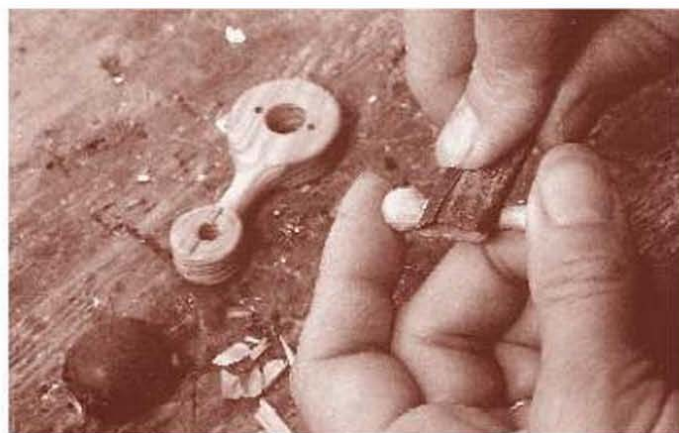

FIGURE 18-9
- 5** Having made the knob—I turned mine, but you could just as well use a found bead—take a little scrap of easy-to-carve wood and make a little pivot pin to run through the knob (Figure 18-9). Work the whittling with a knife and fine-grade sandpaper, until it is a tight fit in the crank and a loose fit through the knob, with the swelling at the end of the pivot acting as stop.